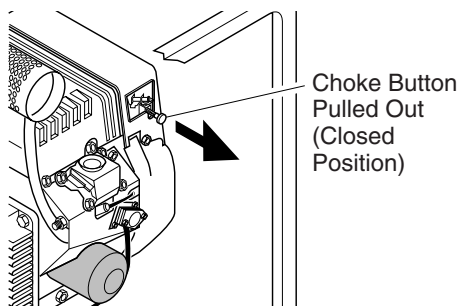

Figure 14 - Choke Button Closed
2. Pull choke button out (see Figure 14). This closes the choke.